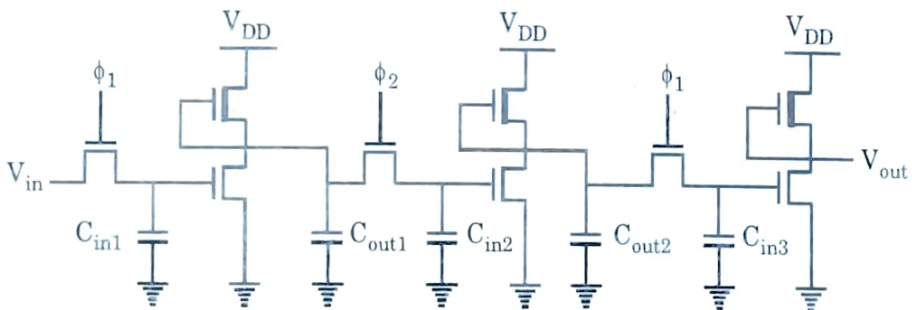

Fig. 3.15.1.
1. In depletion load dynamic shift register circuits, the input data are inverted once and transferred or shifted into the next stage during each clock pulse as shown in Fig. 3.15.1.